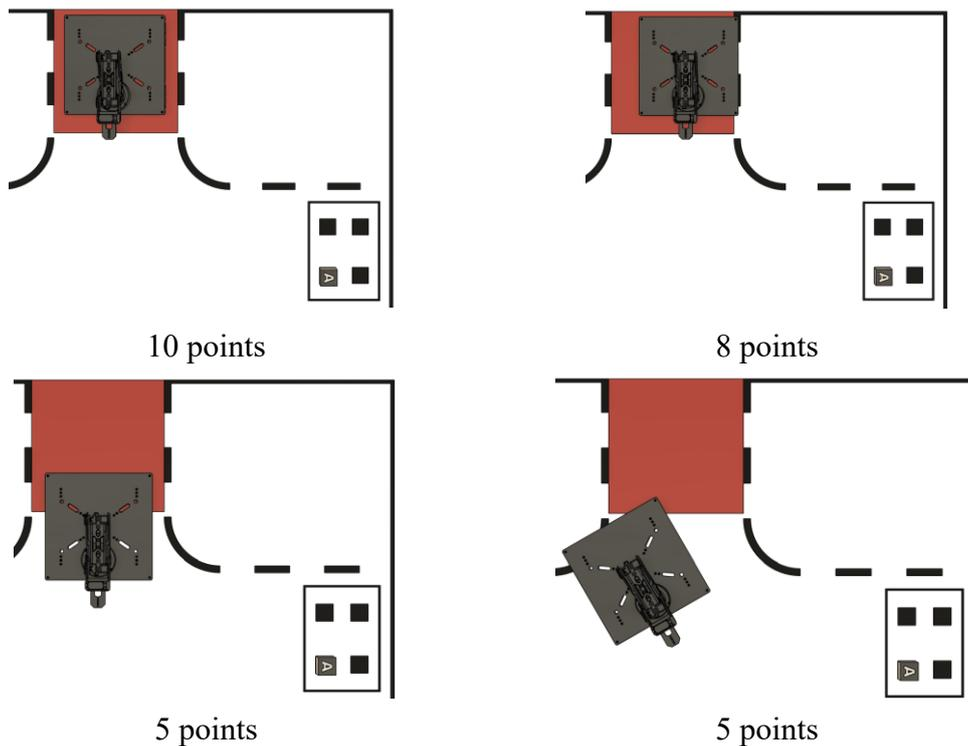

Figure 8. Scoring Illustration of Robot Positions
7.53 Scoring for the robot's stopping positions is the same as in the Overall Contest's Table 2 (robot position scoring). For each designated area (C, D, E, and the return to A), points are awarded based on the portion of the robot that enters the area (As shown in Figure 8):